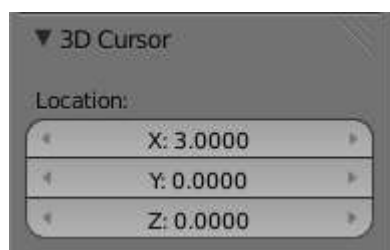

Fig. 6 - Cursor Basic Location - Transform Panel
- The basic location of the cursor at the point of view (using Global coordinates) will determine around which axis the selection is extruded and spun at first (See Fig. 6 - Cursor Basic Location - Transform Panel). Blender will copy your cursor location coordinates to the values present in the *Center* values of the *Screw* interactive Panel. Depending on the Global View position, Blender will automatically add a value of **1** to one of the Axis Vectors, giving the profiles a starting direction for the Screw Operation and also giving a direction for the extrusions. (See examples below.)